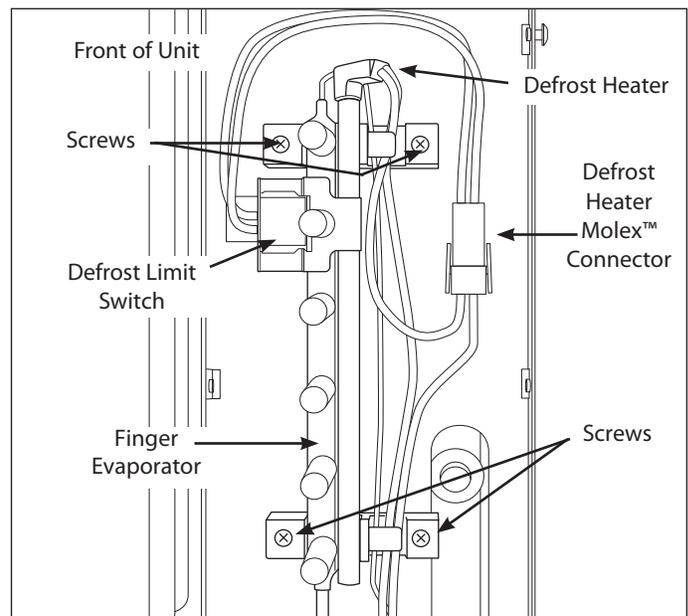

Figure 6-90.
5. Disconnect the evaporator heater at the Molex™ connector. (See Figure 6-90)
6. Extract the four screws securing finger evaporator to frame assembly top panel. (See Figure 6-90)